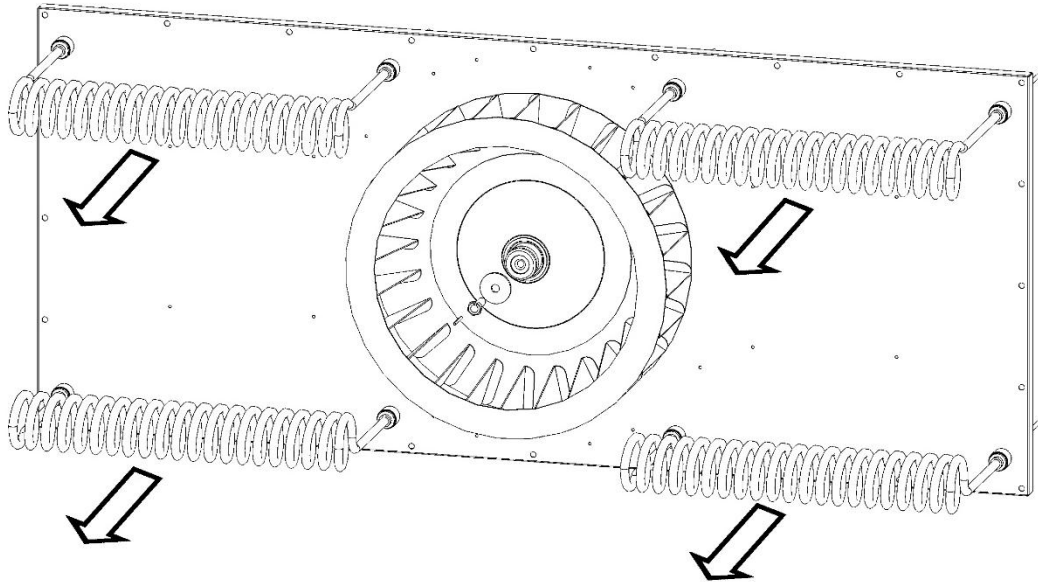

Fig.8
1. Unscrew the nuts that fix the heating elements and take them out frontally (Fig.8)
Tap and scroll the dial clockwise or anticlockwise to change the setting (Fig.8).